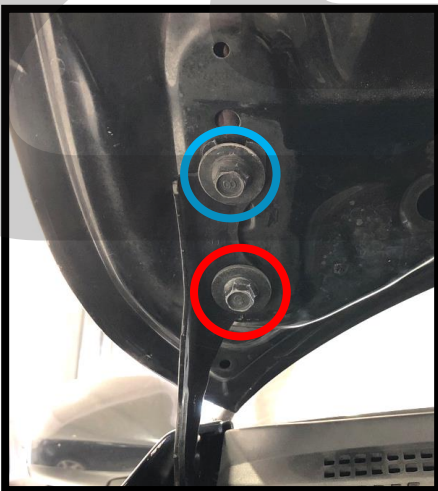

Figure 1a
- b) Lift up the hood and remove the two 12mm bolts located near the back corners of the hood. Support the hood upon bolt removal to ensure it does not bend the hinges. One bolt location circled in red in Figure 1a the opposite side of the hood is identical.
- c) Loosen the remaining two 12mm bolts holding the hood to the hinges. These do not need to be completely removed. One bolt location shown in blue in Figure 1a.